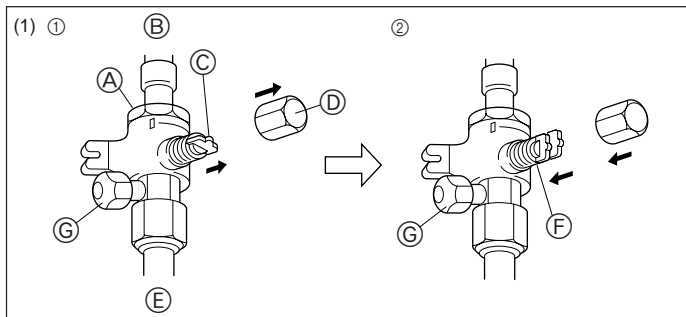
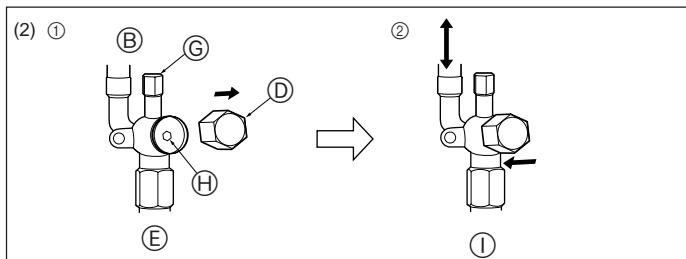

Fig. 4-6
Fig. 4-7
(1) Gas side (Fig. 4-6)
- ① Remove the cap, pull the handle toward you and rotate 1/4 turn in a counterclockwise direction to open.
- ② Make sure that the stop valve is open completely, push in the handle and rotate the cap back to its original position.
(2) Liquid side (Fig. 4-7)
- ① Remove the cap and turn the valve rod counterclockwise as far as it will go with the use of a 4 mm hexagonal wrench. Stop turning when it hits the stopper. (ø6.35: Approximately 4.5 revolutions) (ø9.52: Approximately 10 revolutions)